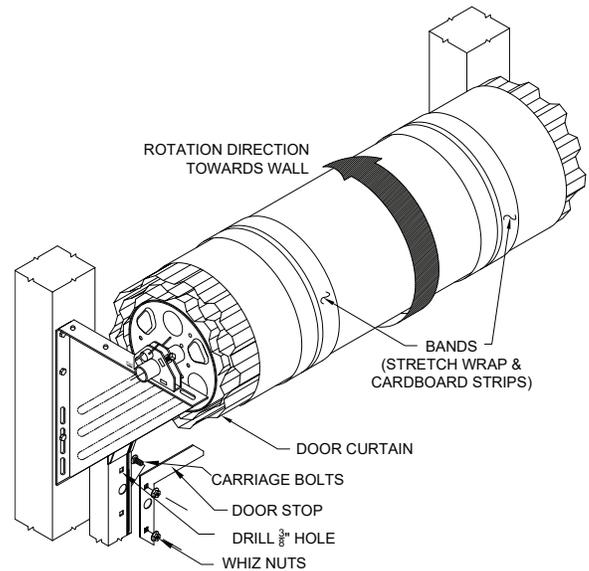

Figure 14.
7.2 Install the carriage bolts, door stops and whiz nuts in each side guide as shown in Figure 14. DO NOT tighten at this time. Both top stops will need to be in the same set of holes on each side of the door for proper operation.
8.2 Bend the guide tabs out slightly (about 1/4"). Standing inside the opening looking out, place your hand on top of the door and push away from you rotating the door nest (Figure 14). Rotate the door nest two complete revolutions. Hanging on to the door bottom assembly, carefully cut the stretch wrap and feed the door curtain into the guides, moving the door stops aside to let the bottom bar move past. Pull the door bottom assembly down to waist level.